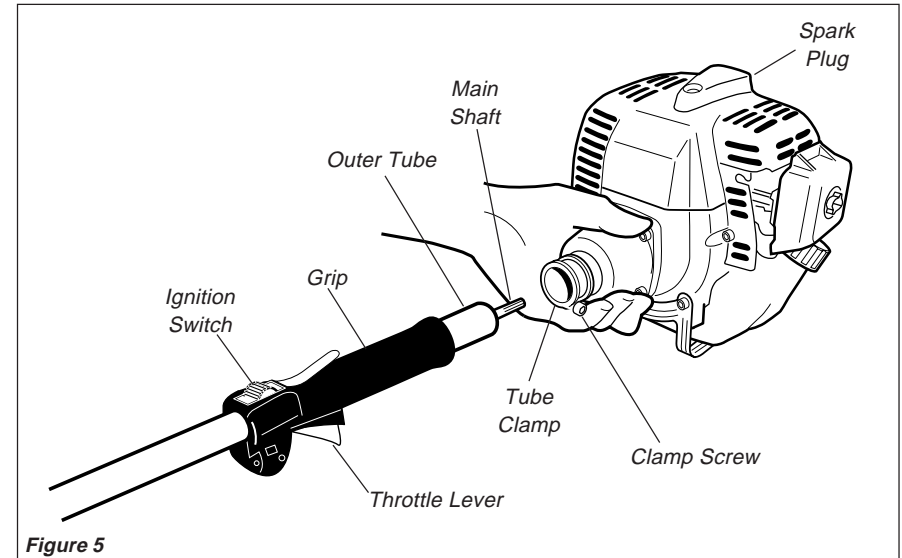

Figure 5
4. Slide the outer tube into the tube clamp until the tube bottoms. If installation is difficult, rotate the outer tube or main shaft slightly until you feel the mainshaft splines engage with the powerhead. See Figure 5.
5. Position the outer tube so that the ignition switch is facing up and the throttle lever is facing down. See Figure 5.